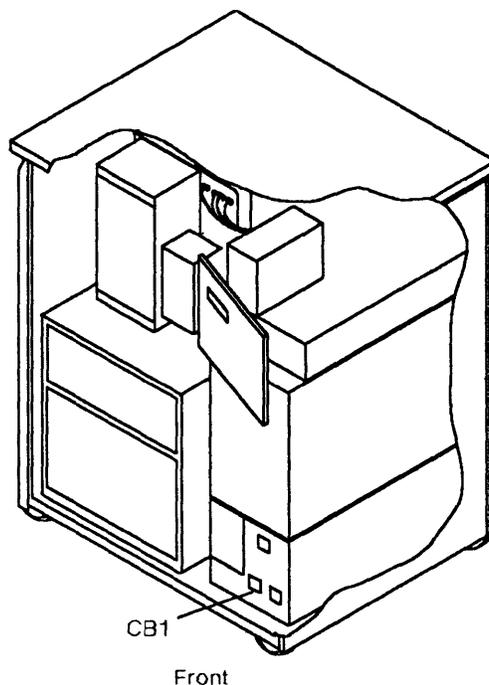

Figure 4-121. CB1 Location
4. **Switch CB1 OFF.** Refer to Figure 4-121.